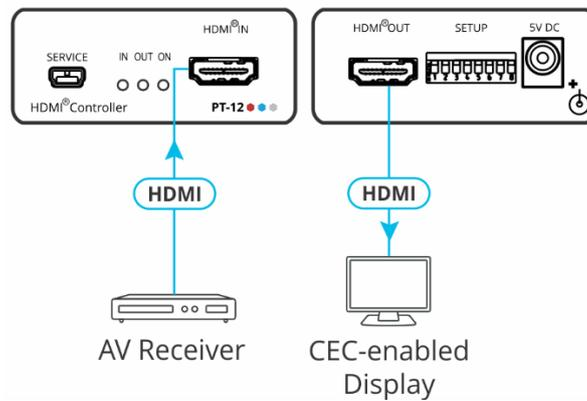

Figure 2: Connecting to the PT-12
**To connect PT-12 as illustrated in the example in Figure 2:**
1. Connect the HDMI source (for example, an AV receiver) to the HDMI IN Connector (5) on the front panel.
2. Connect the HDMI OUT Connector (6) to a CEC-enabled display.
3. Connect the power adapter to PT-12 and to the mains electricity (not shown in Figure 2).